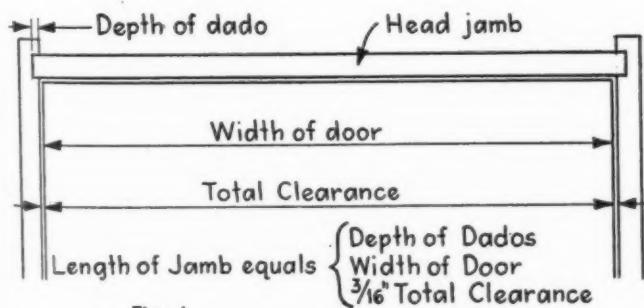

Fig. 1
2. Cut the head jamb with both ends perfectly square having allowed the width of the door plus the depth of both dados and a full $\frac{1}{8}$ " for door clearance. See fig. 1.